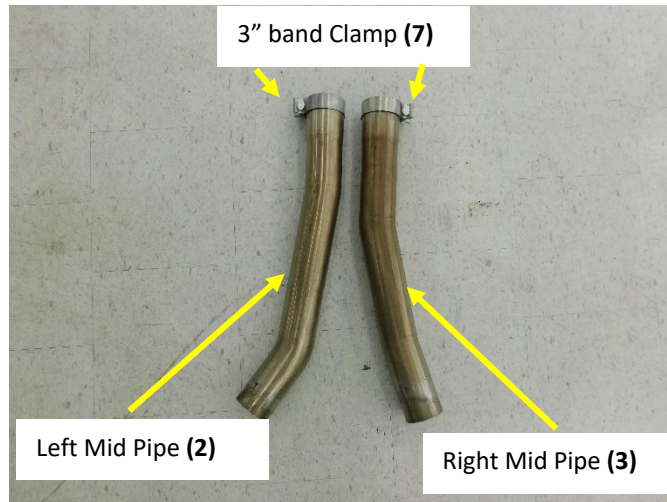

Figure.9
8. Install a 3" band clamp (7) on to the expanded inlet end of the Left Mid Pipe (2) and the Right Mid Pipe (3) with the bolt to the outside and the nut facing down. **Fig.9**